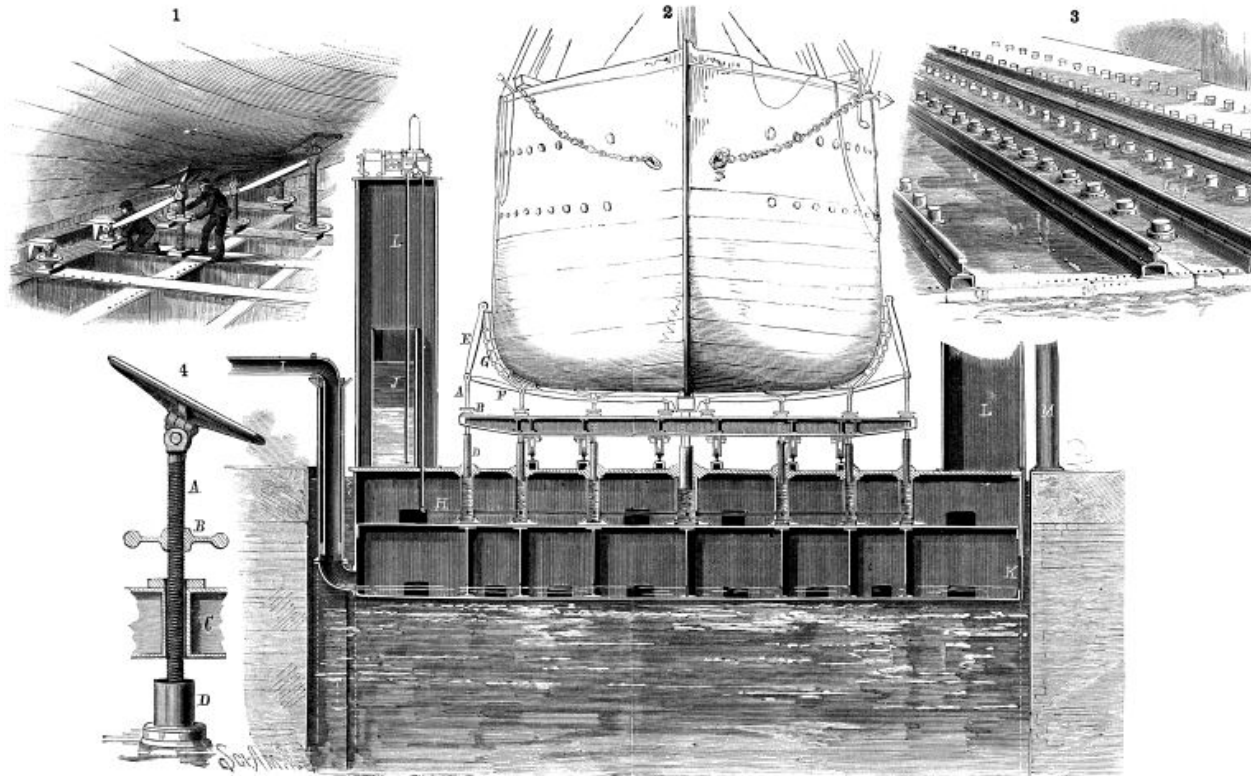

Fig. 2.—THE INTEROCEANIC SHIP CANAL—SECTIONAL ELEVATION OF PONTOON AND RAILWAY CRADLE.
***“...The pontoon, or floating dock (see Figs.1 to 4), is of the same general construction as those in use all over the world, save in some important modifications rendered necessary to fit it for its special work. For it is not enough that the vessel should be docked and lifted out of the water, but that it shall be caused to rest upon a cradle in such a manner that its weight shall be equalized fore and aft, and thus enable the carriage with its load to move easily and safely. This is effected by means of a system of hydraulic rams arranged along an intermediate deck about six feet below the upper deck of the pontoon (Fig. 2)...”***